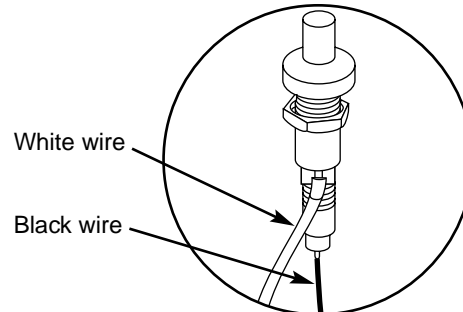

**Figure 18**
- i) Reinstall the Spider Stopper Guards. Slightly rotate the Spider Stopper Guards so that the seams are in line with the Venturi fins. There should be no gaps in the seams or in the fit around the burners and valves. Figure 18.